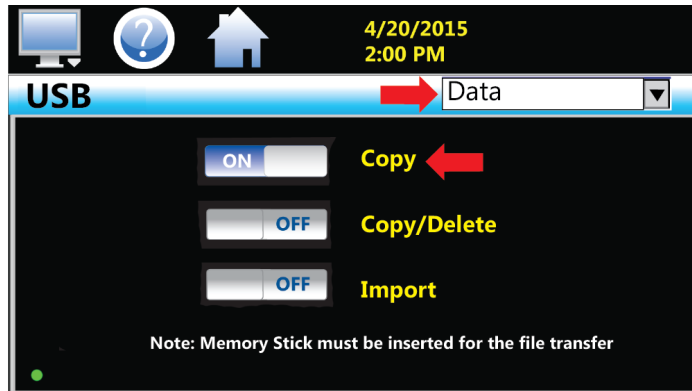

Fig. 79: Select Copy
5. Tap the COPY button. The OFF button is replaced by ON button (Fig. 79). A progress bar will show all related files being copied to the USB stick.